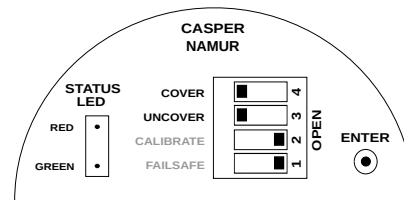

Figure 64: Switch Position Low Current Configuration
- Set the COVER and UNCOVER switch to CLOSE position as per Figure 64.